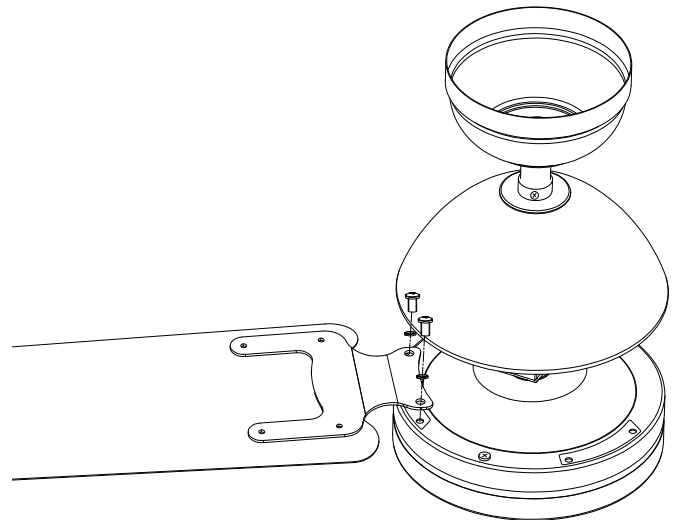

Fig. 9
Step 5. Tighten all screws. (Fig 9)